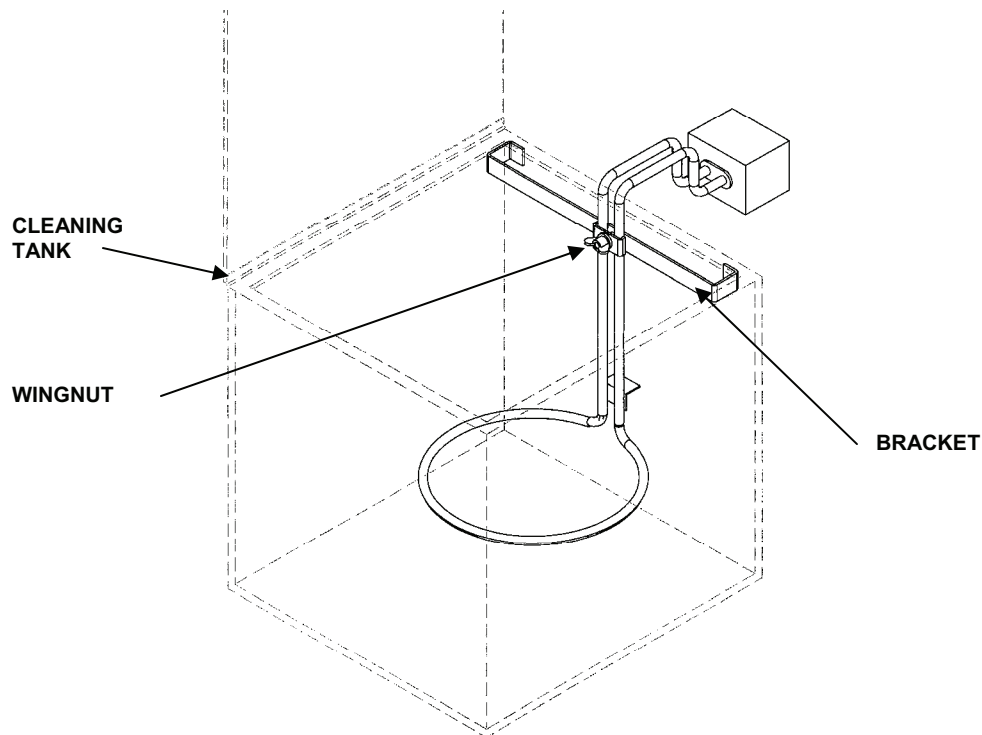

Figure 3. Immersion Heater Installed in Cleaning Tank.
9. Install the immersion heater into cleaning tank. Use bracket to support the immersion heater on the side of the tank. Hang heater over module frame. See Figure 3.